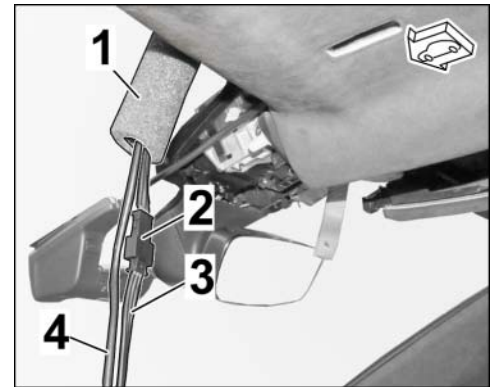

Figure 14
3.2.4 Push protective foam roll over the (3-pin) plug connection (⇒ *Figure 14*).
3.2.5 Tie back branch for 2nd camera (⇒ *Figure 14 -4-*) and secure it to existing components/lines in the roof console area using another protective foam roll.